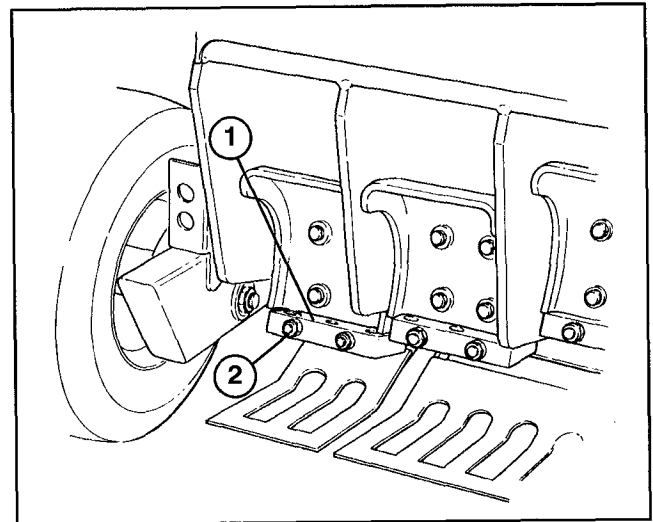

Figure 17
4. Loosen (2) hex nuts on each tine block until tines can be inserted. Insert tines until they bottom out on flange in tine block (Fig. 17).
5. Tighten mounting nuts to 100–110 ft/lb. torque (Fig. 17).